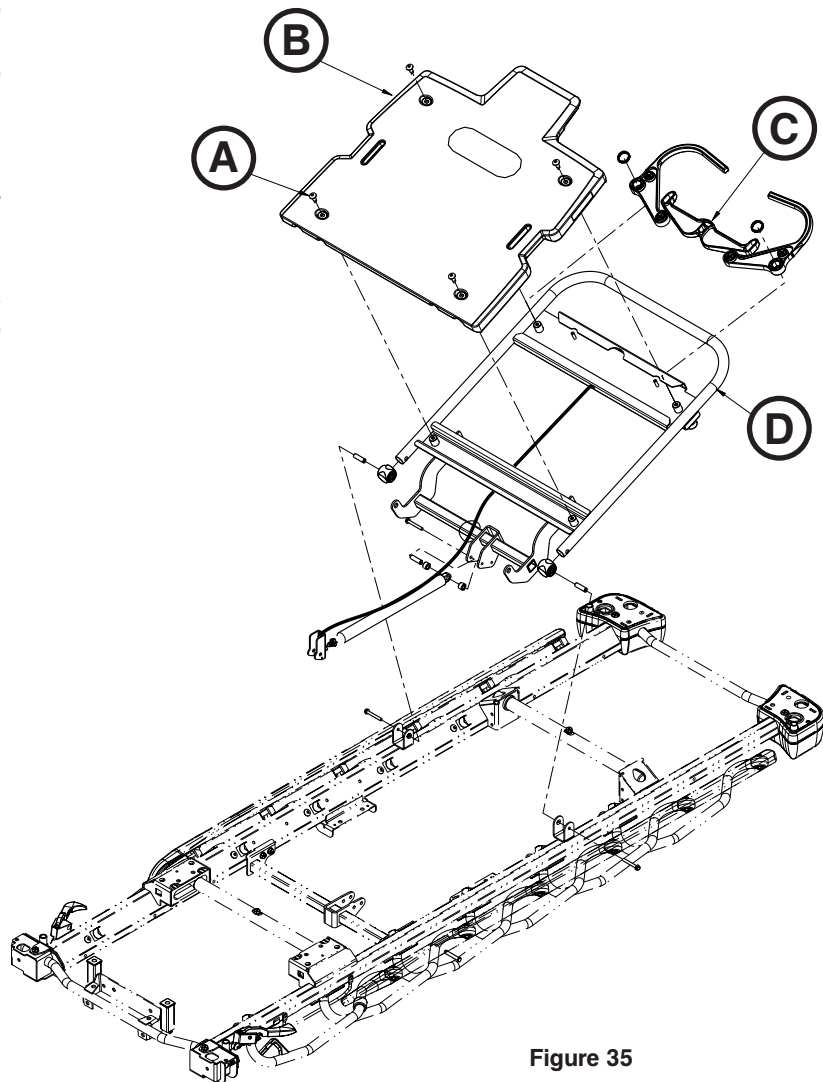

Figure 35
1. Using a 3/8" drive ratchet and T40 Torx driver, remove the four truss head machine screws (A) that secure the plastic fowler skin to the fowler frame (Figure 35). Save the screws for reinstallation.
2. Detach the fowler cable assembly from under the plastic fowler skin to remove the plastic fowler skin (B) (Figure 35). Save the skin for reinstallation.
3. Remove the fowler cable assembly from the black plastic cable release pivot (C) on the fowler weldment (D) (Figure 35).
- Route the cable to the fowler release handles and attach the cable to the black plastic cable release pivot (C) (Figure 35 on page 55).